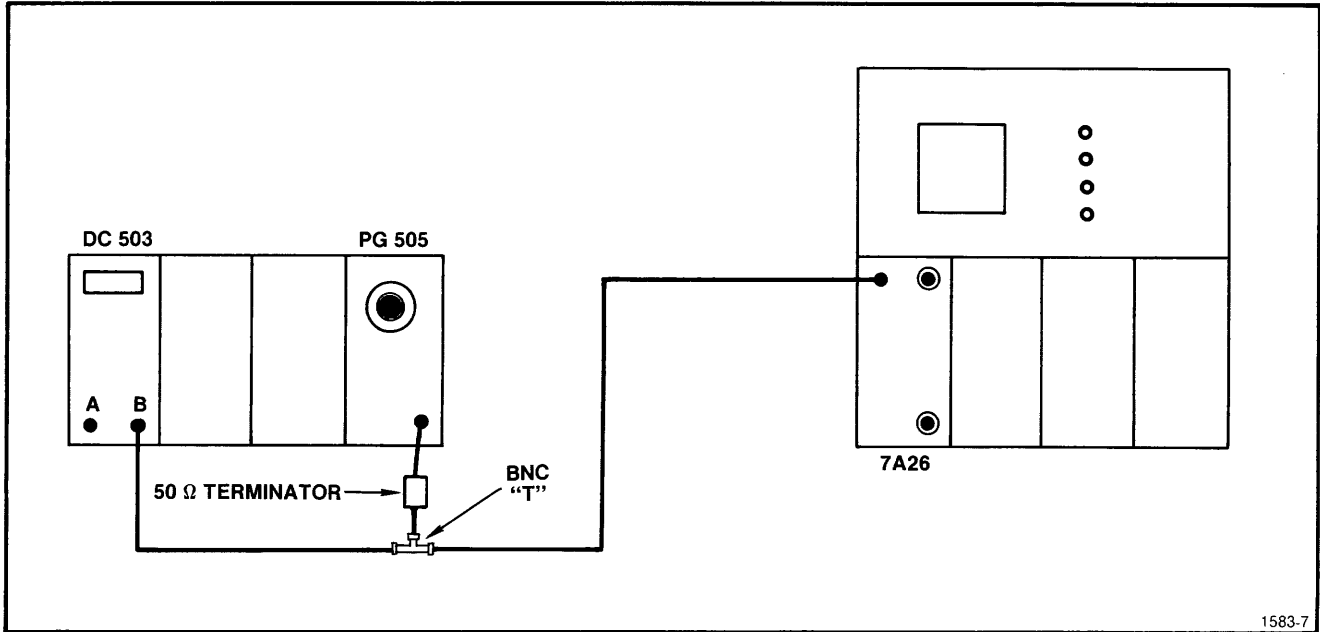

Fig. 4-2. Pulse Period and Duration Check.
- b. Connect the equipment as shown in Fig. 4-2. Set the DC 503A to measure period B.
- b. Connect the equipment as shown in Fig. 4-2. Set the DC 503 to measure Period. Use the settings in the second line of the table in the preceding step.